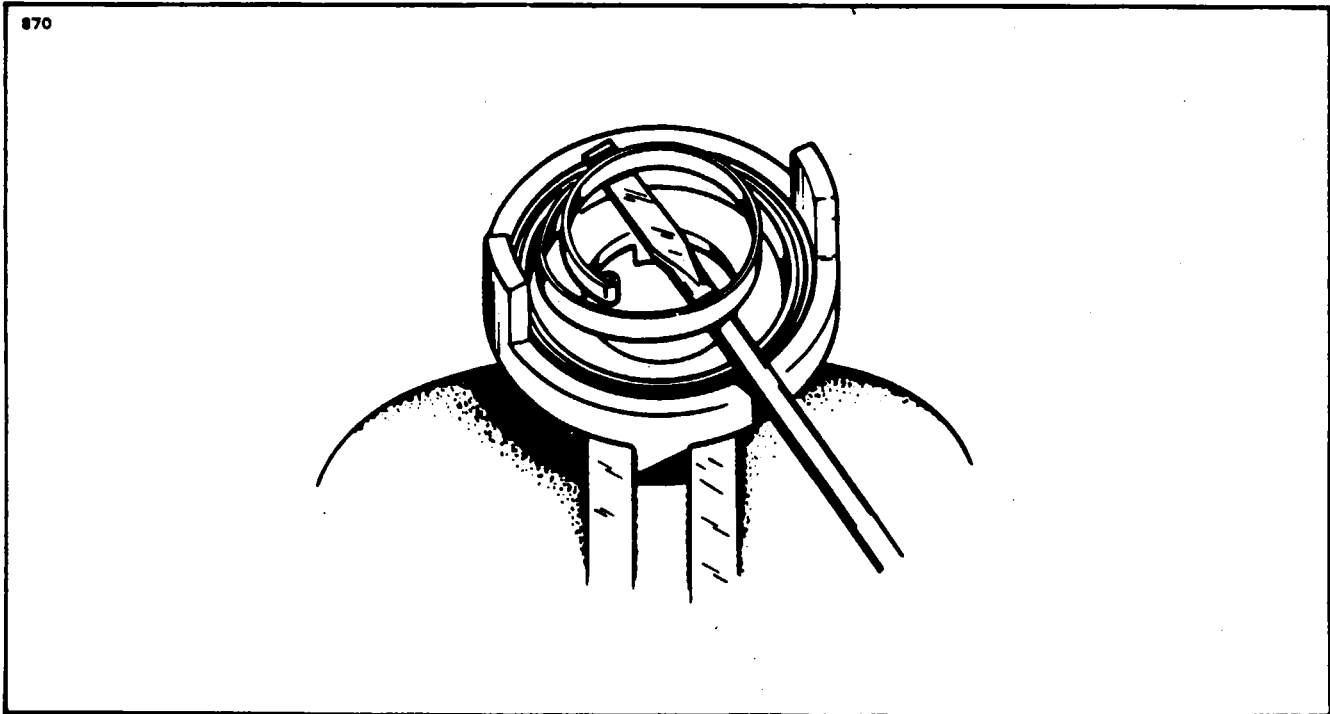

Figure 74-19. Lifting Inner End of Spring
6. Pry up one and one-half turns at the inner end of the spring with a small screwdriver and support in position as shown in Figure 74-19.